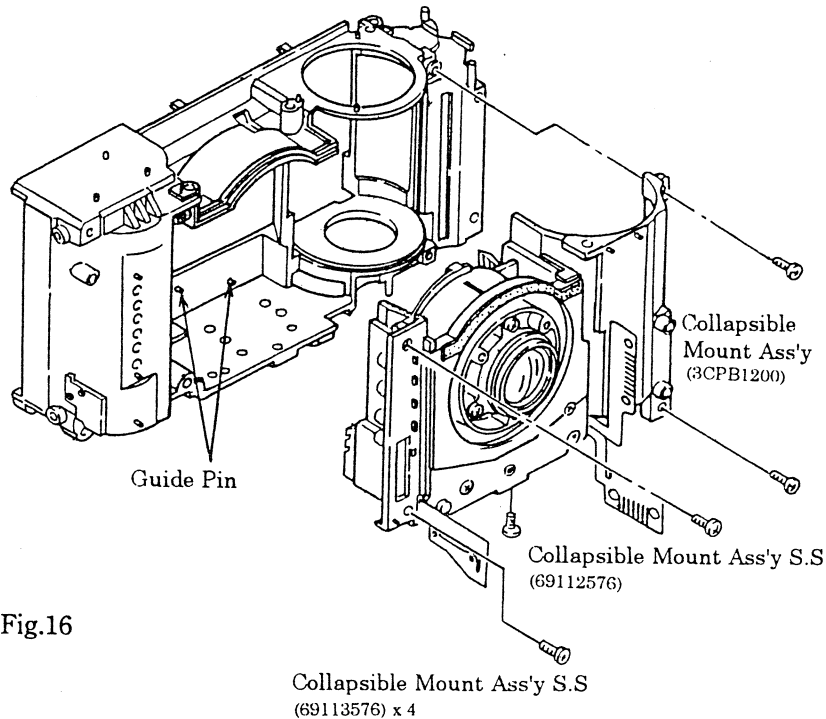
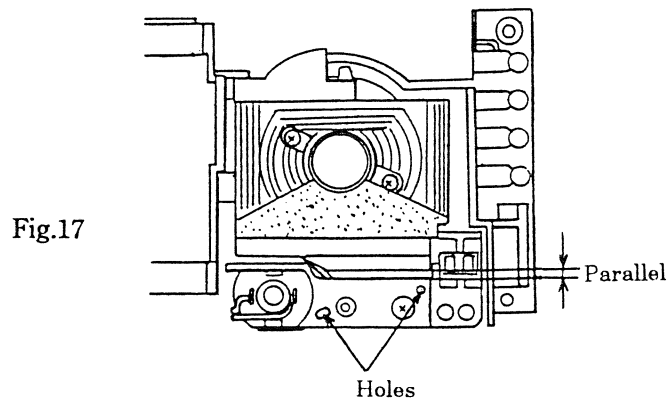

Fig.16
Fig.17
### B-5-1. Removal of Collapsible Mount Ass'y (See Fig.16)
- b) When installing the Collapsible Mount Ass'y, fit the two holes (See Fig.17) in the Motor Holder to the two pins (See Fig.16) of the Body. Tighten the Collapsible Mount Ass'y Setscrews (69113576) x 4 and (69112576) after making sure that there is no gap between the Body and the Collapsible Mount Ass'y.